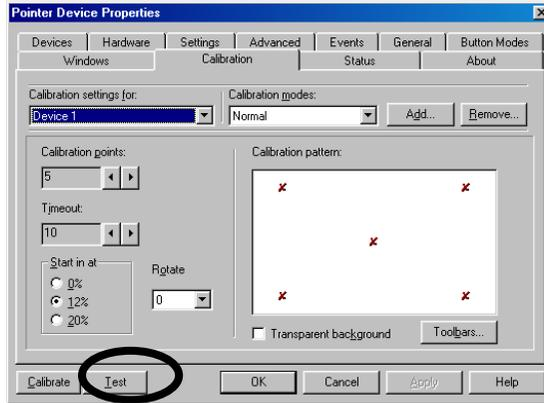

Figure C.7 Touch Screen Test
- To make certain that your touch screen is reading the movement of the stylus accurately, click on the ‘Test’ button at the bottom of the screen (Figure C.7).